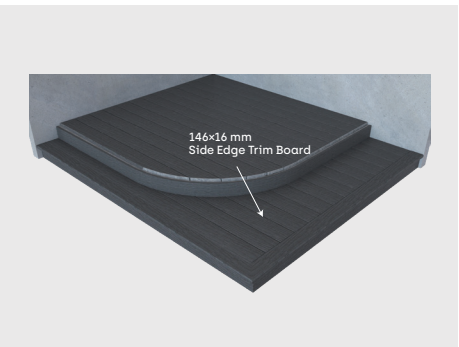

Figure 3-6
- 5. Install the second-layer curved platform with 146×16 mm side edge trim boards, as shown in Figure 3-6.